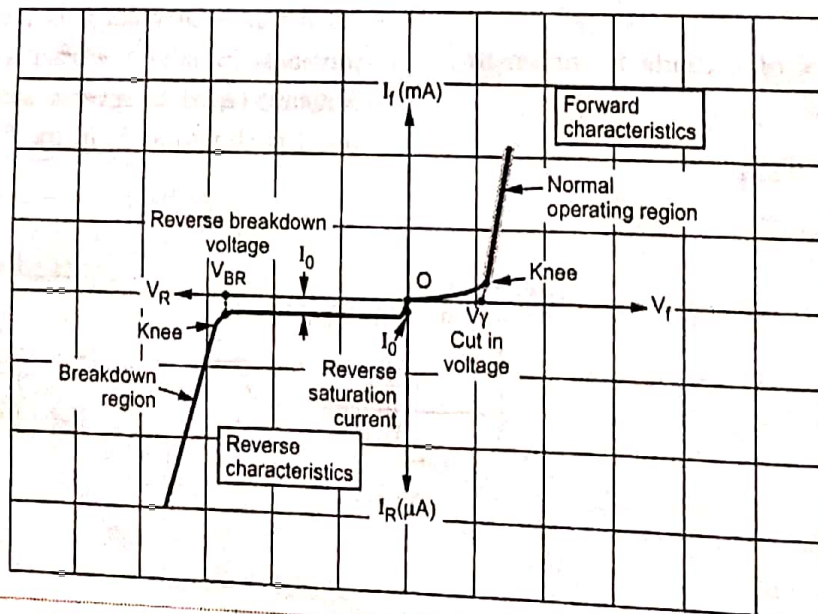

Fig. Q.6.3 Complete V-I characteristics of a diode
- The complete V-I characteristics of p-n junction diode is the combination of its forward as well as reverse characteristics. This is shown in the Fig. Q.6.3.